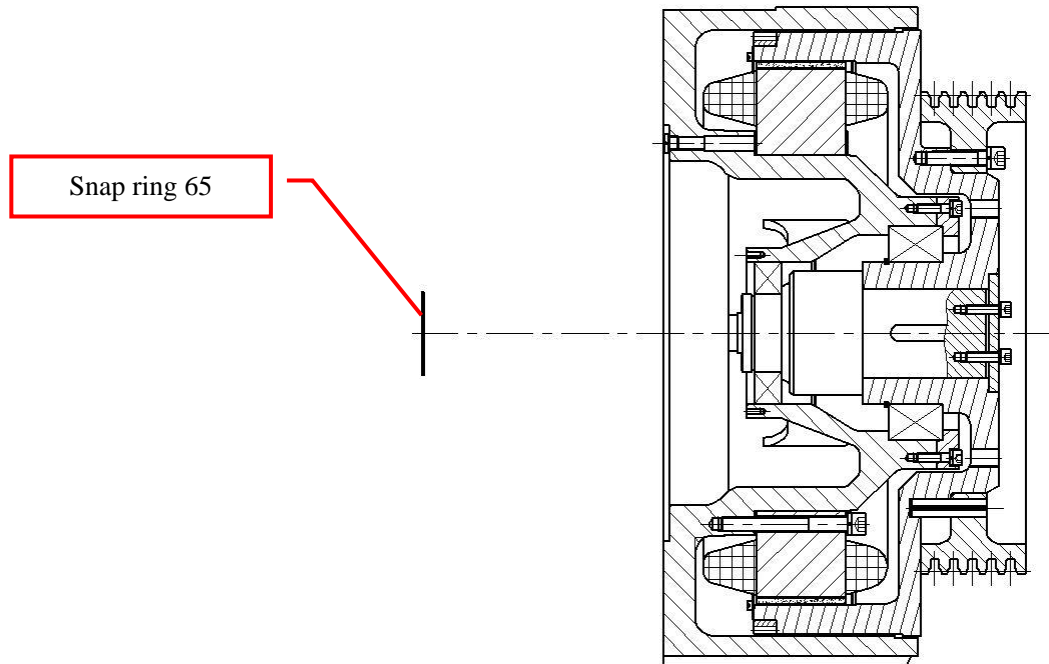

Figure 44: Remove snap ring
- Remove the snap ring 65 with snap ring pliers. See Figure 44.